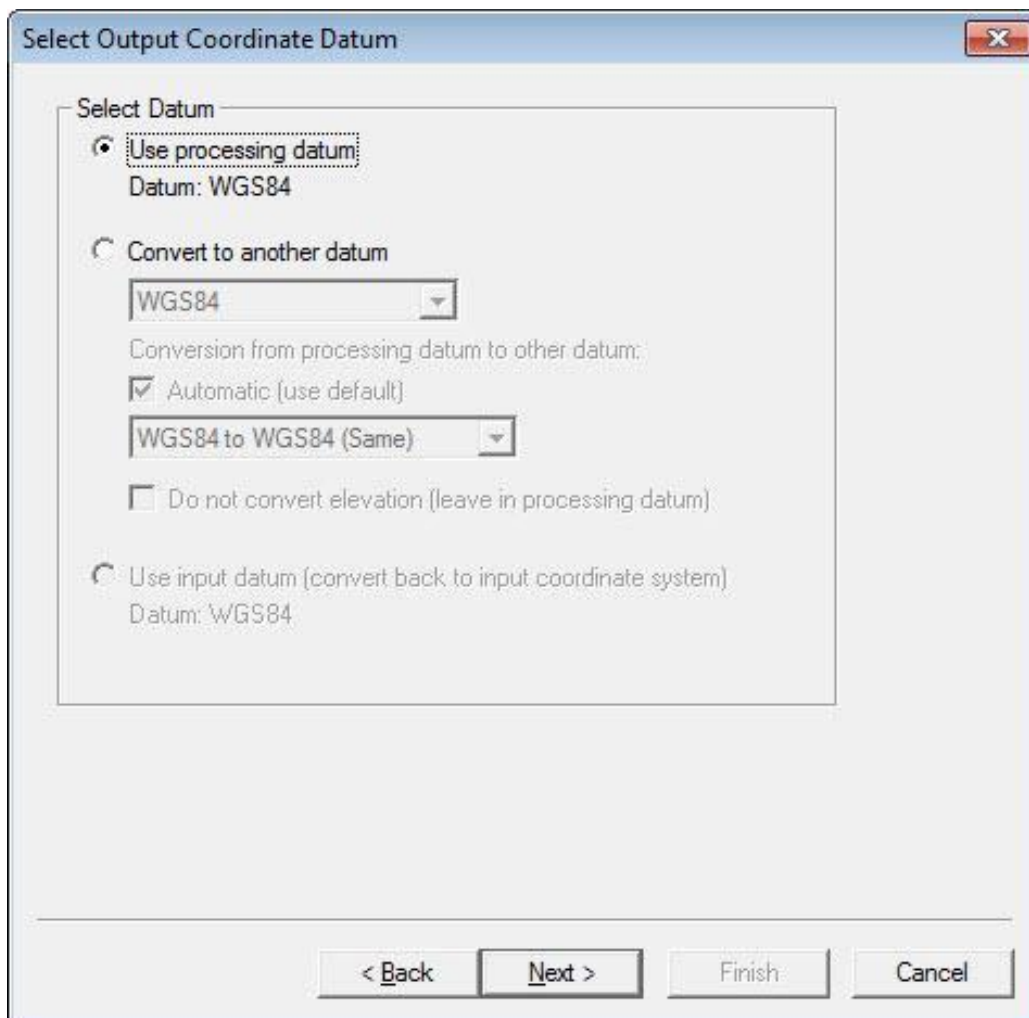

Figure 7-13 Select Output Coordinate Datum Dialog
- In the **Select Output Coordinate Datum** dialog (Figure 7-13) select the default settings (**Use processing datum WGS84**). Click **Next**.